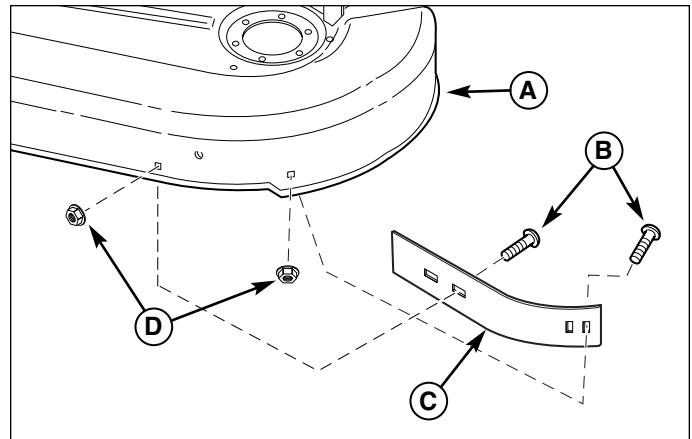

Figure 4. Baffle Removal
6. Remove and discard short blowout baffle (C, Figure 4), carriage bolts (B) and locknuts (D) from mower deck (A).